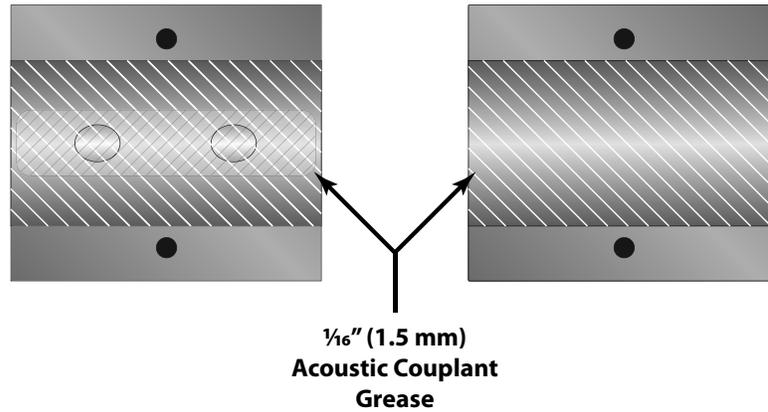

FIGURE 2.6 - APPLICATION OF ACOUSTIC COUPLANT — DTTS/DTTC TRANSDUCERS
- 1) Apply a thin coating of acoustic coupling grease to both halves of the transducer housing where the housing will contact the pipe. See **Figure 2.6**.